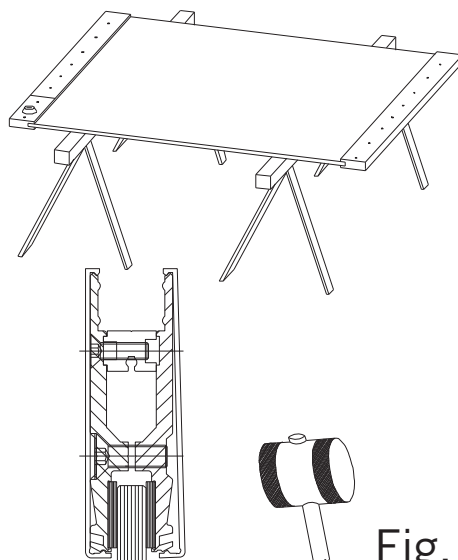

Fig. 3
3. Fitting the door rails to the glass panel (Fig. 3):